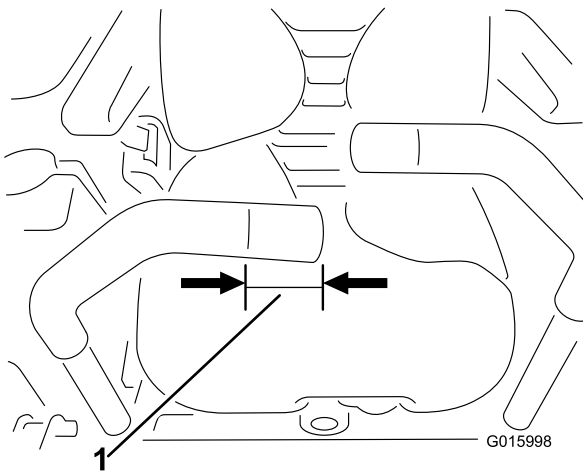

Figure 12
1. To install the adaptor switch mount, cut 40 mm off the right-hand motion control lever (Figure 12).